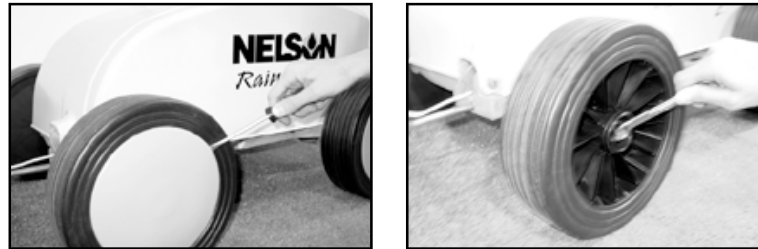

Figure 14. Removal of the Hubcap, Shoulder bolt and Wheel
1. Assemble the four wheels to the chassis using 4 brass shoulder bolts and a 7/8" or 22 mm socket wrench (See figure 14 on page 19). The hubcaps can then be pressed into place. The hubcaps may need to be rotated and pressed at the same time to fit them in completely.
Remove the shoulder bolt using a 7/8" or M22 socket (see figure 14).